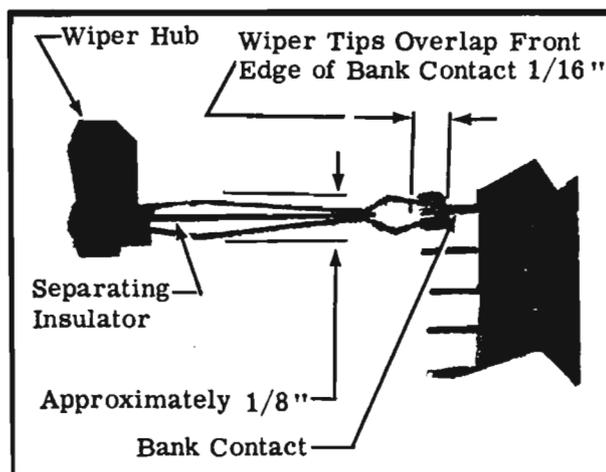
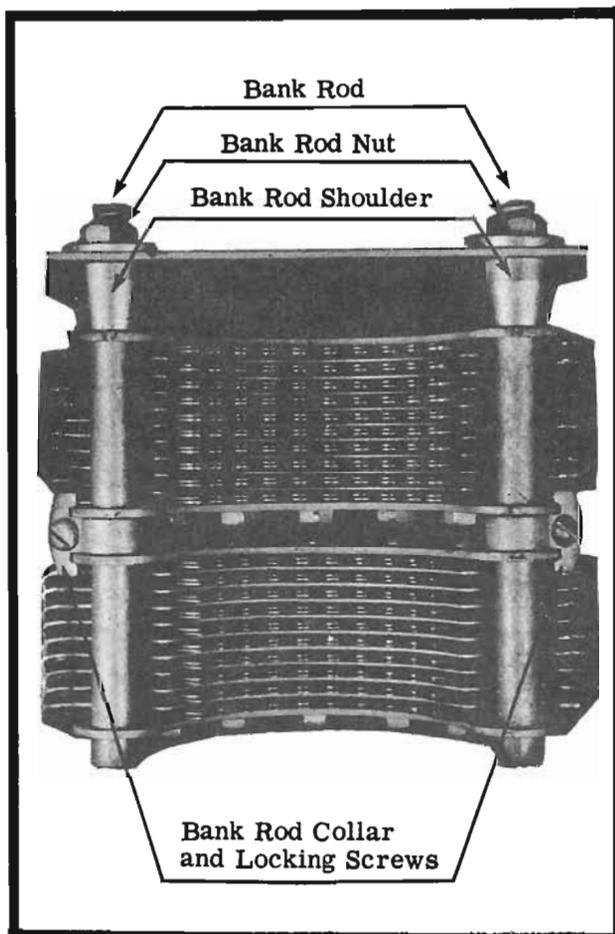

Figure 13. Check that Wiper Tips Overlap Bank Contacts and that All Related Requirements are Met.
Figure 17. A 400 Point Bank with Arrows Indicating Bank Rods, Bank Rod Nuts, Bank Rod Shoulders, Bank Rod Collars and Locking Screws.
3.21 Check position of wipers on bank contacts 1 and 10. Observe that the wiper tips overlap the front edge of the bank contacts by at least $1/16$ " (Fig. 13). To adjust, loosen bank rod nuts (Fig. 17) with the H-7063 wrench. Move bank assembly toward or away from the shaft as required. Retighten bank rod nuts.
3.22 Check wiper tip angle on bank levels 1, 5, and 10, contact 1. Observe that the angle of the upper wiper to the bank contact is the same as the angle of the lower wiper tip to the bank contact. See Fig. 13. To adjust, loosen the wiper locking screw with the nut-driver or screwdriver. Move wiper on shaft as required. Retighten locking Screw.
3.31 Check that bank rod collar assemblies secure all banks in place. The upper bank should be in contact with at least one of the two bank rod locating shoulders (Fig. 17). Adjust by moving bank and collar as required.
3.32 To change position of bank rod collar, loosen locking screw (Fig. 17) with the screwdriver. Reposition bank and lock bank in bank collar slots. Tighten locking screw.